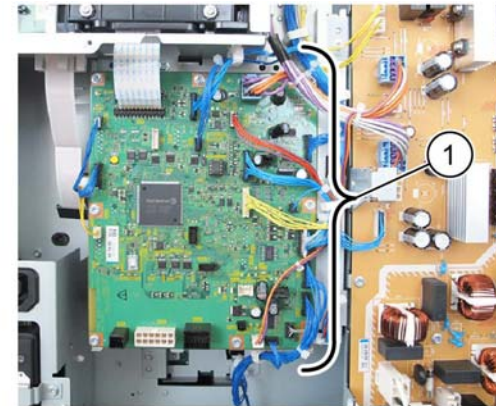

Figure 3 Connectors
4. Disconnect all connectors from the drive PWB (1), Figure 3.